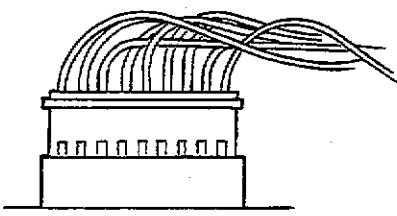

Fig. 4
2. Route harnesses to provide slack in harness and no stress on connector. Refer to Fig 4.